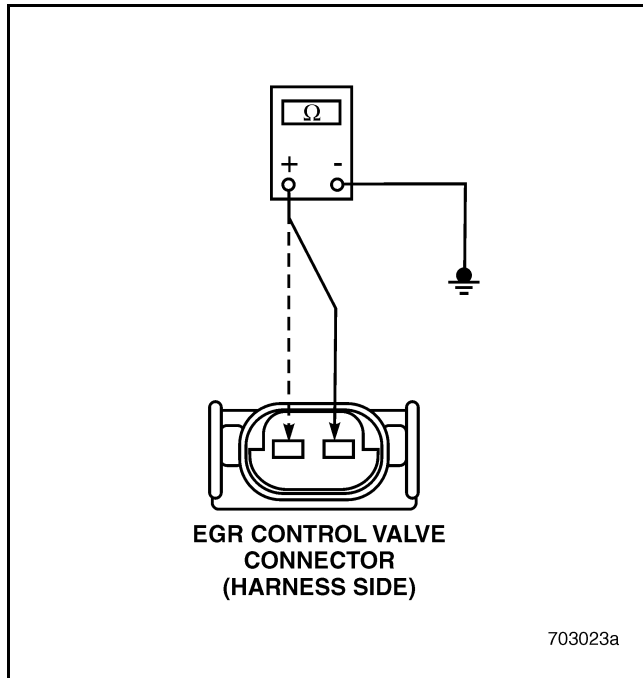

Figure 524
4. Check for continuity between the two pins of the EGR Control Valve harness connector and a good ground (see Figure 524).